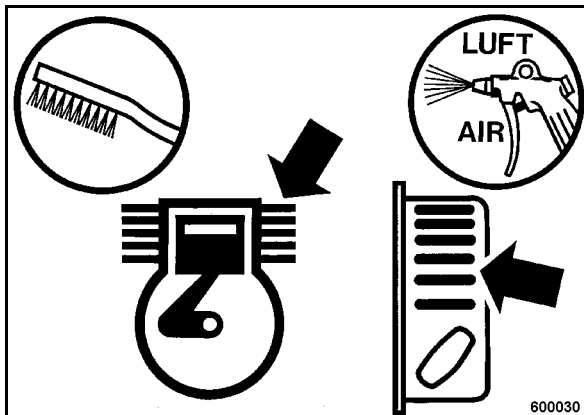

Fig. 49
- Loosen dried on dirt with a suitable brush (Fig. 49) from all cooling fins and cooling air intake openings and blow it off with compressed air .